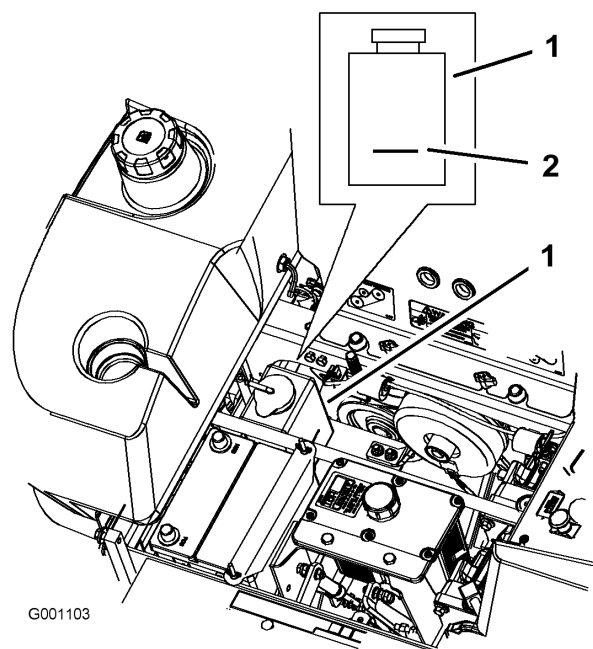

Figure 51
3. With the engine cool, check the overflow bottle level. The fluid needs to be up to the bump on the outside of the overflow bottle (Figure 51).
4. If the coolant level is low, add a 50/50 mix of extended life antifreeze/Dex-Cool® and water to the overflow bottle (Figure 51).
5. Add the 50/50 coolant mix to the overflow bottle and fill it to the indicator line on the bottle (Figure 51).